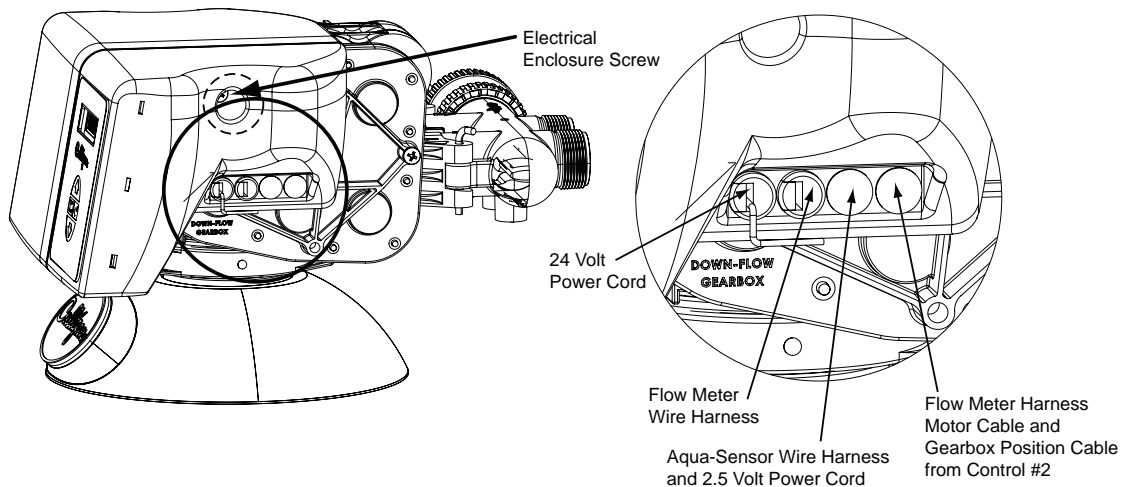

Figure 18. Circuit board connections.
1. Remove the electrical enclosure from both control valves. First remove the electrical enclosure screw and then gently remove the enclosure from the control. Refer to Figure 18 and below instructions.